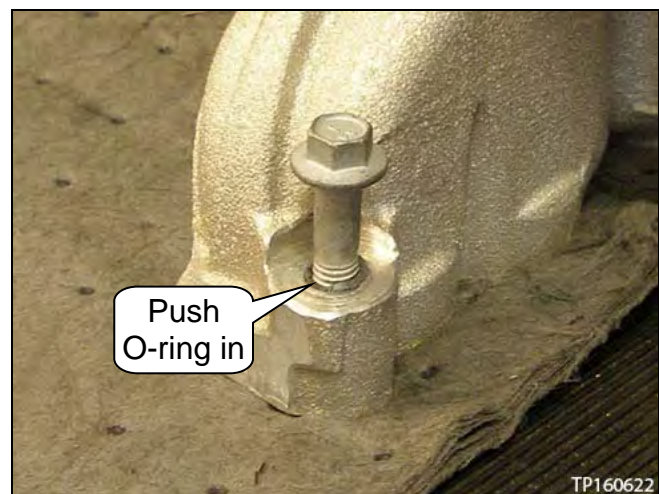

Figure 79
- Push down enough for the O-rings to hold the bolts in place, but not enough for the bolts to stick out the bottom (see Figure 79).